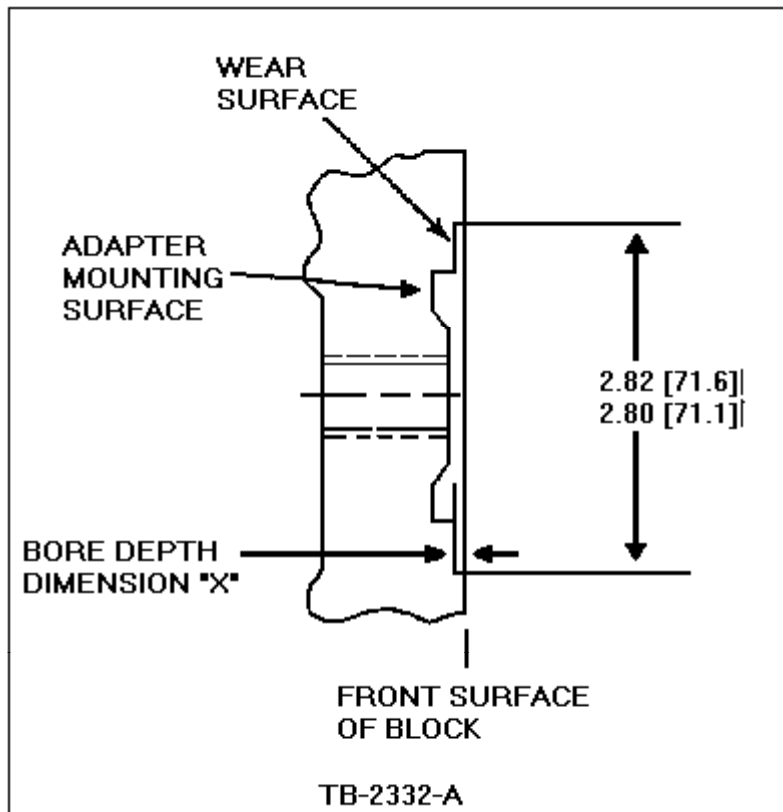

Figure 1 - Article 91-19-13
2. Measure bore depth of dimension "X" at the 3,6,9 and 12 o'clock positions. Refer to Figure 1.
1. Rebore the block dimension "X" to new depth of 2.34 mm (.092 inches). Refer to Figure 1.